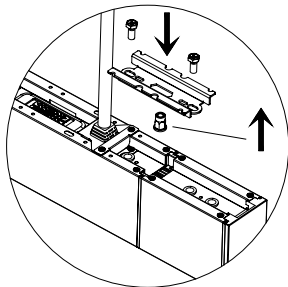

Figure 2
2. Install the Connection Plate to secure sensor box to fixture. (Fig. 2 & 3)